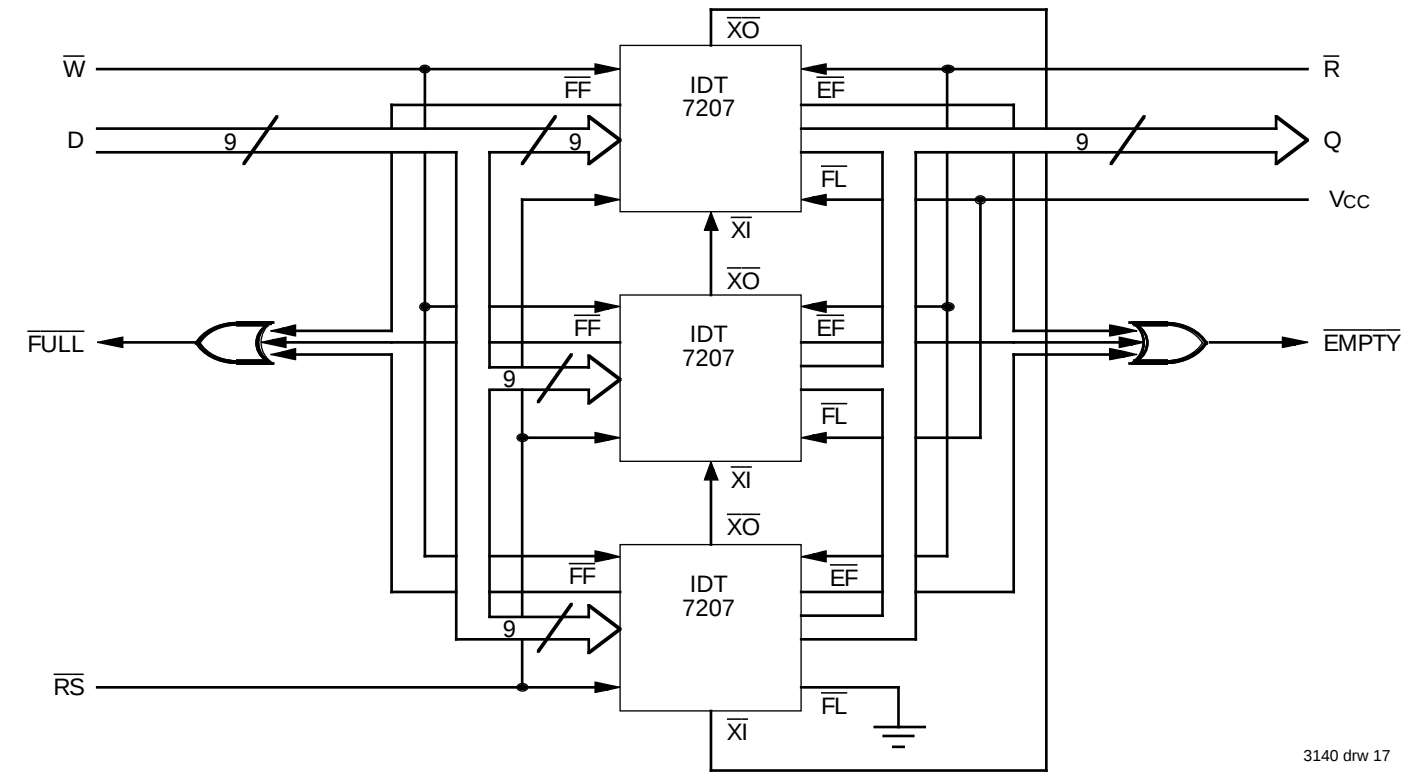

Figure 14. Block Diagram of 98,304 x 9 FIFO Memory (Depth Expansion)
The IDT7207 can easily be adapted to applications when the requirements are for greater than 32,768 words. Figure 14 demonstrates Depth Expansion using three IDT7207s. Any depth can be attained by adding additional IDT7207s. The IDT7207 operates in the Depth Expansion mode when the following conditions are met:
3. The Expansion Out ($\overline{X_O}$) pin of each device must be tied to the Expansion In ($\overline{X_I}$) pin of the next device. See Figure 14.
4. External logic is needed to generate a composite Full Flag ($\overline{FF}$) and Empty Flag ($\overline{EF}$). This requires the ORing of all $\overline{EF}$ s and ORing of all $\overline{FF}$ s (i.e. all must be set to generate the correct composite $\overline{FF}$ or $\overline{EF}$). See Figure 14.
1. $\overline{XI}$ is connected to $\overline{XO}$ of previous device. See Figure 14.